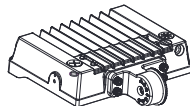

Fig 3.2
Step 3: Run the rubber wire through the other holder and tighten it with the hexagon socket screw. (Watch out not to scratch the wire). Figure 3.2